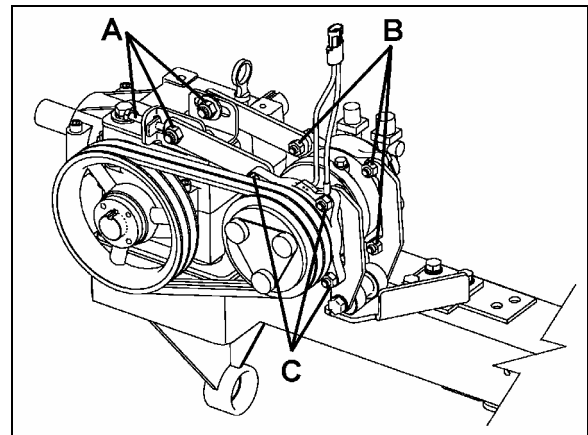

FIGURE 39: COMPRESSOR REMOVAL OR INSTALLATION
- Slacken bolts A (Figure 39).